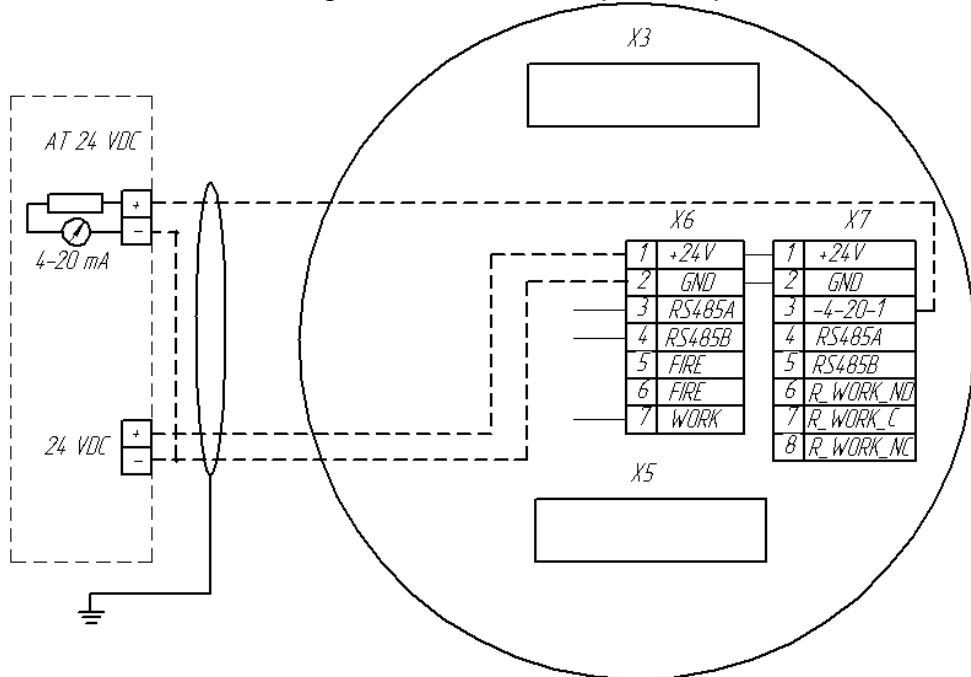

Figure 6 – Connection diagram for a detector with uninsulated output 4-20 mA
- Figures 6 and 7 show diagrams of connecting the detector to fire alarm control panels in the analogue signal using and digital output using mode;